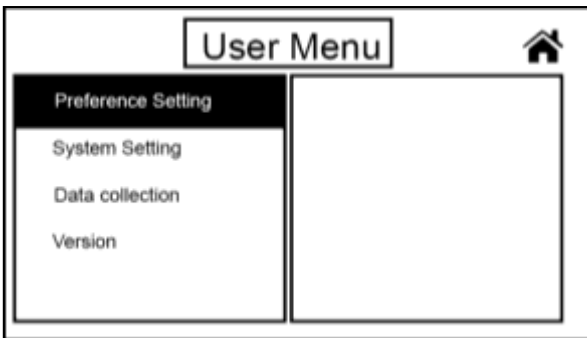
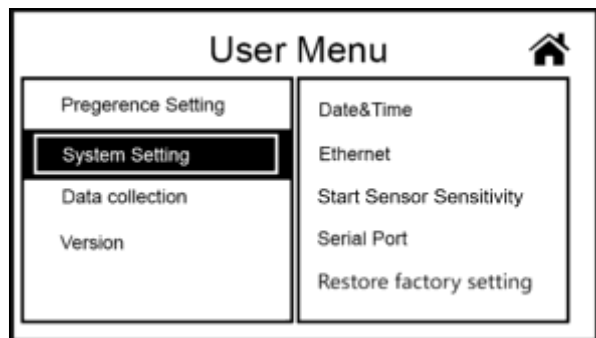

Figure 92
Figure 93
1) Touch the “Menu” key to enter the “User Menu” interface, as shown in Figure 92 below. Then press “System Setting” to enter the “System Setting” interface, as shown in Figure 93.